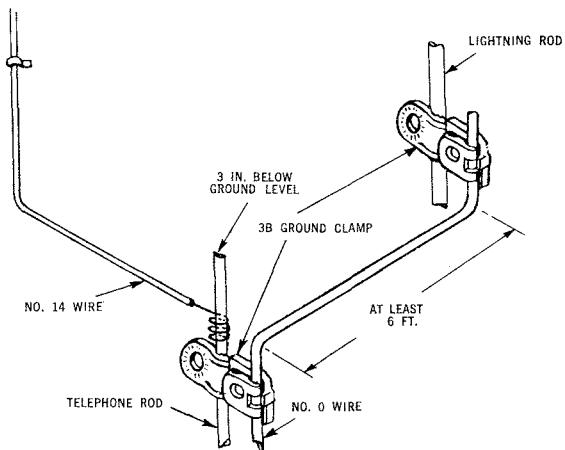

Fig. 31 — Bond to Lightning Rod
- (c) If lightning ground rod present, it must be bonded to telephone ground rod. (See Fig. 31).